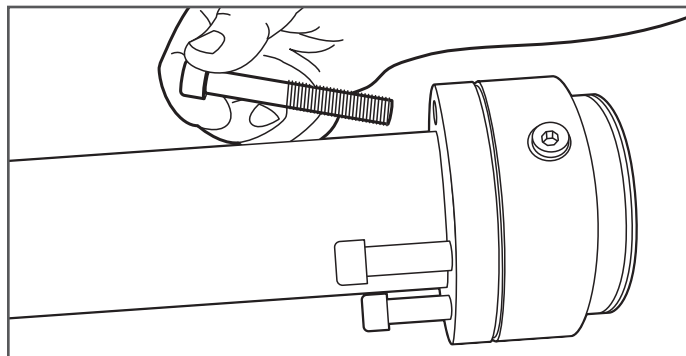

Figure 8-3
3. Remove all cap screws (Figure 8-3).